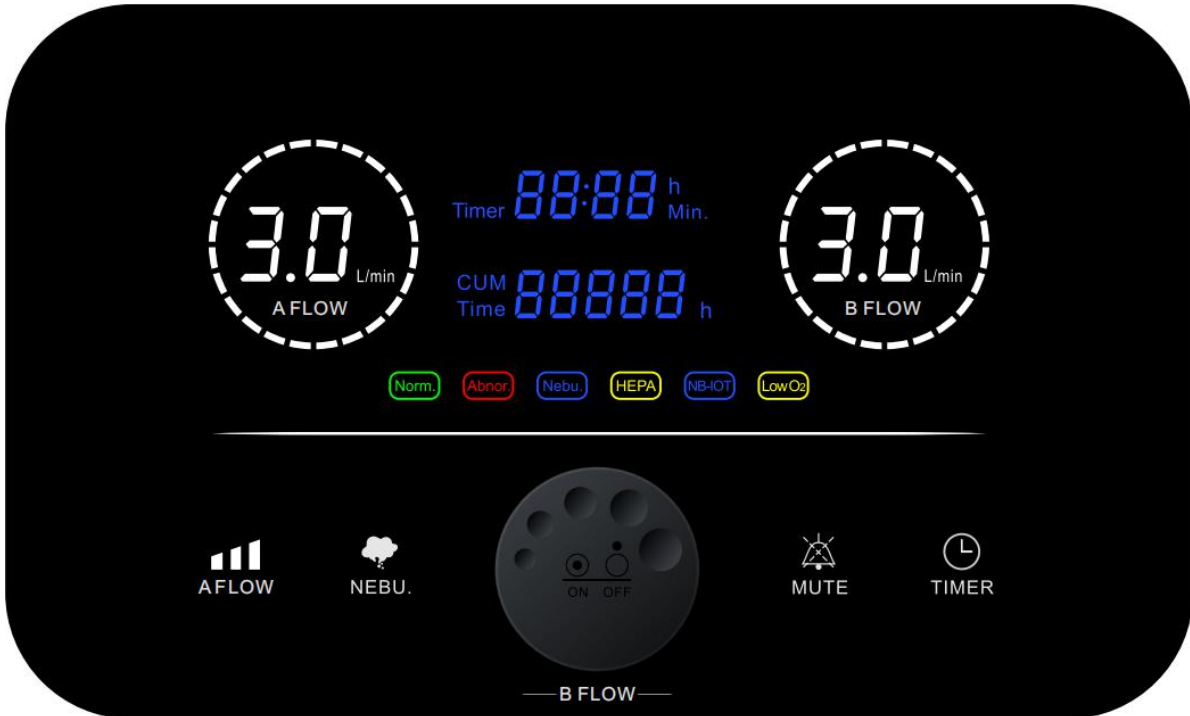

Figure 5
1. When the dual flow open, the window of "A Flow" and the total "O₂ concentration" take turns to display. see below Figure 5/6 shows.